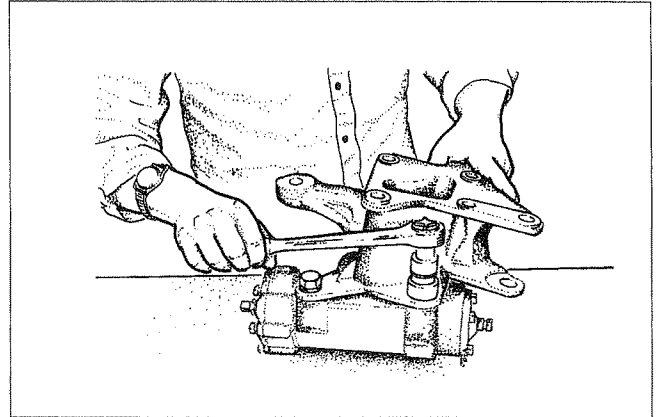

Figure 24
2. Remove the bracket (Figure 24).